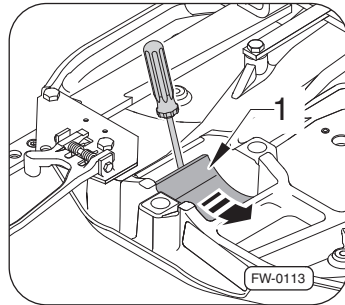

Fig. 39 · Replace bearing
2. Lever out the bearing inserts Fig. 39, –arrow 1– using a screwdriver.